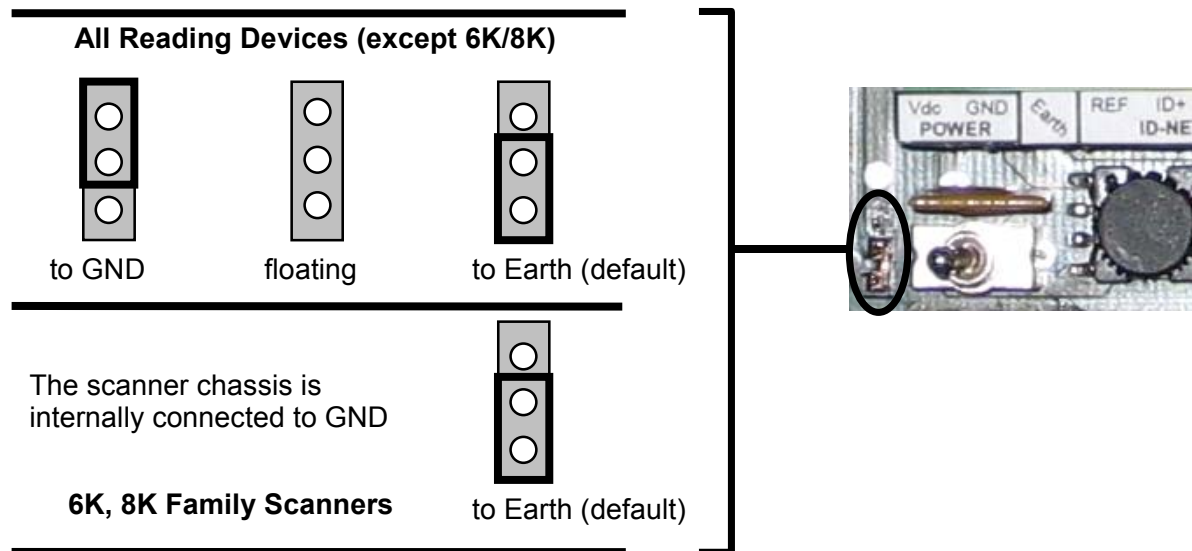

Figure 8 – Chassis Grounding
- Connect the reading device chassis to earth ground through the jumper, (default setting, see Figure 8).
The reading device chassis grounding method can be selected by positioning a jumper (see Figure 8). In this way the reading device chassis can be connected to earth ground (only if pin Earth is connected to a good earth ground). For all reading devices except 6K/8K, the chassis can alternatively be connected to the power supply ground signal (GND) or it can be left floating but, in this case, the jumper must be removed. For 6K or 8K scanners the chassis is internally connected to GND.